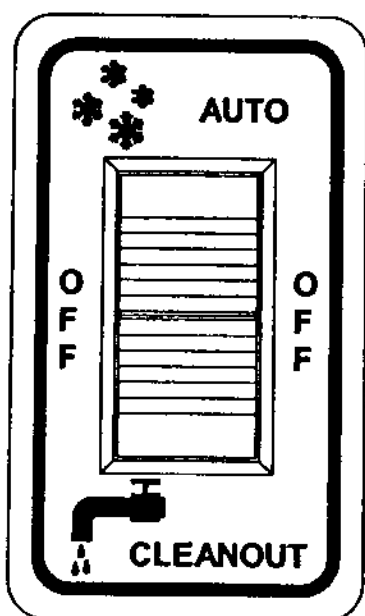
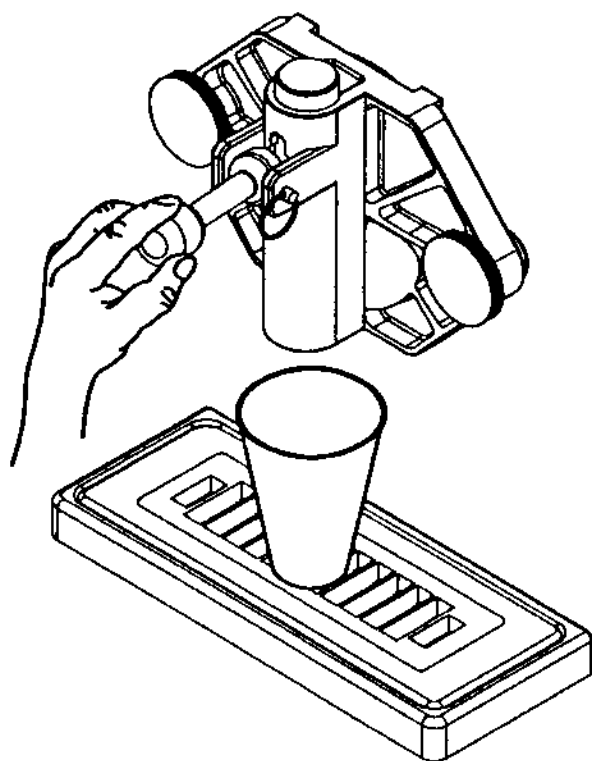

Fig. 11
Fig. 12
1. Fill the machine with cold water and set each control switch (Fig. 11) to the "CLEANOUT" position. **DO NOT** use hot water which could damage the machine. Let the machine agitate 1 to 2 minutes, then drain the water by pulling downward on the spigot handle (Fig. 12). Repeat the above procedure as necessary to make certain all product is removed from the machine. After the machine is empty, set each control switch to the "OFF" position.
4. Set the control switch (Fig. 11) to the "CLEANOUT" position and agitate for approximately 1 to 2 minutes and then drain the water by pulling down on the spigot handle (Fig. 12). After the unit is empty, set each control switch to the "OFF" position.